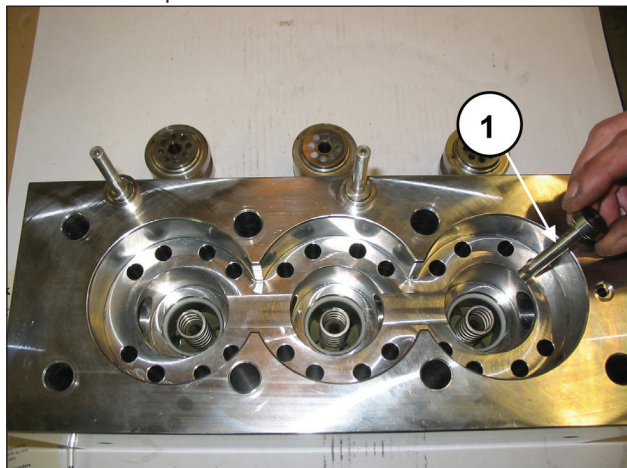
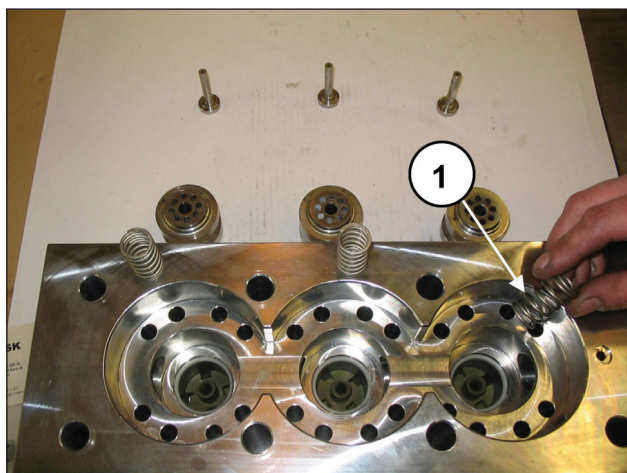
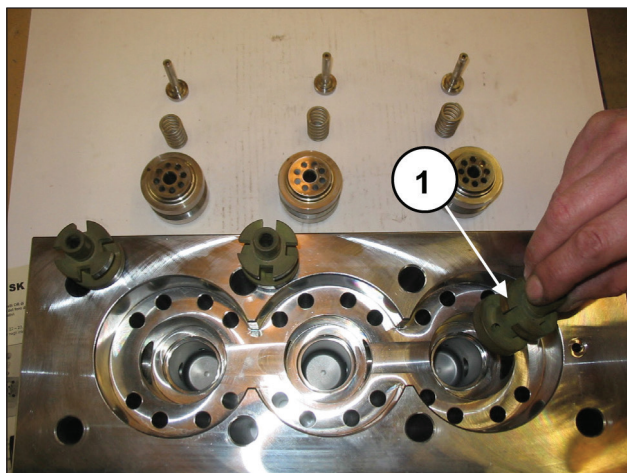

Fig. 106
Fig. 107
Fig. 108
Extract the outlet plates (pos. ①, Fig. 106), and their guides (pos. ①, Fig. 108), with the springs (pos. ①, Fig. 107), check for wear and replace if necessary, and in any case within the times indicated in chapter 11 of the **Use and maintenance manual**.